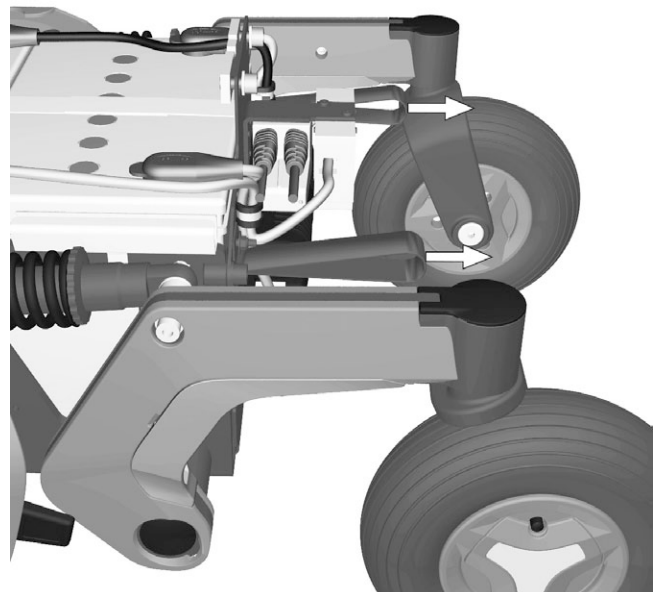

Figure 32. Use the straps to pull the batteries and the electronics out of the chassis.
8. Use the straps to pull the battery box out of the chassis. See fig. 32.